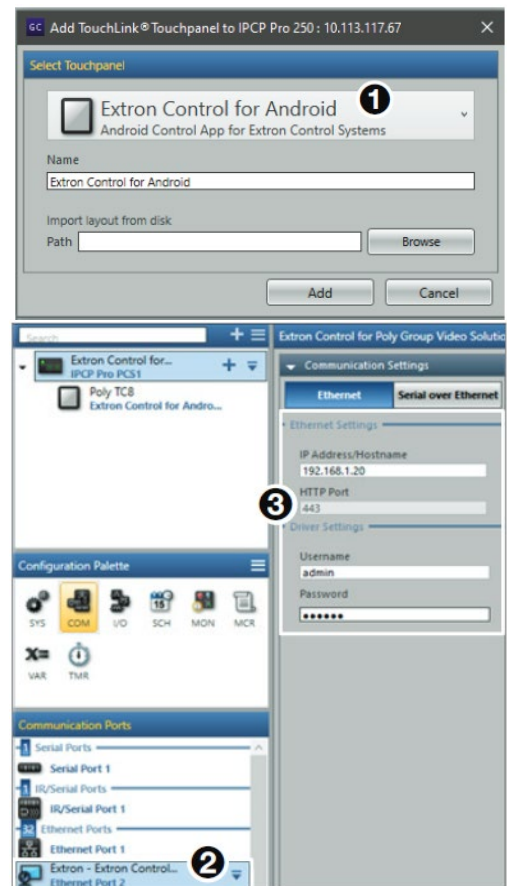

Figure 2. GCP Configuration
6. Select **Extron Control for Android** (see figure 2, ❶).
- a. Select the Ethernet port with the Extron Control for Poly Touch Controller driver (❷).
- b. Enter the IP address, Username and Password (❸) of the device from step 2.